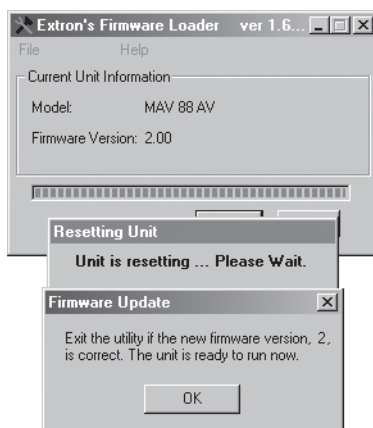

Figure 4-14 — Firmware Loader status indicator bar, switcher reset, and firmware update
9. **Version 2.xx firmware upload** — A status bar, which shows the progress of the upload, appears in the Firmware Loader window (figure 4-14). The firmware upload to the switcher may take several minutes.
Once the status bar has progressed fully from left to right across the indicator window, the firmware loader utility automatically resets the switcher (figure 4-14).